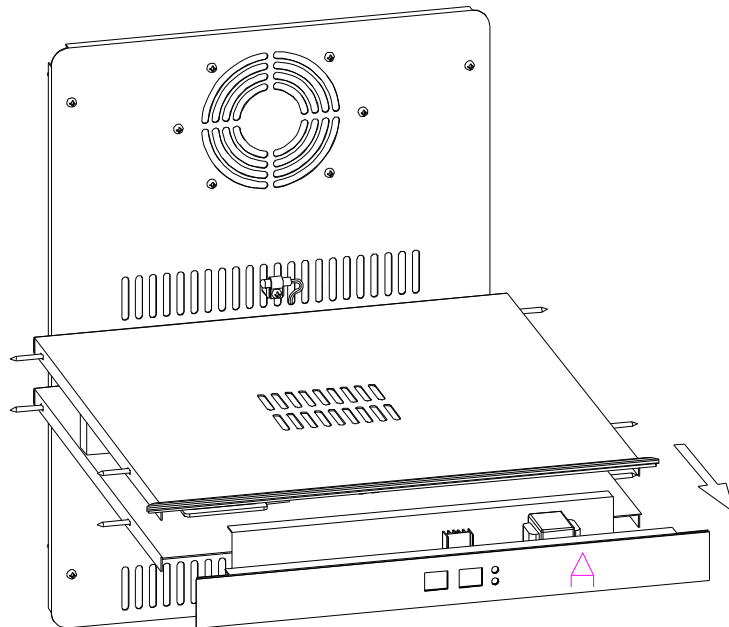

Fig.6
b.Pull out electric box to expose the control panel as per the direction of arrowhead, then unplug all the connectors from the control panel, and remove electric box (A). See (Fig.6)